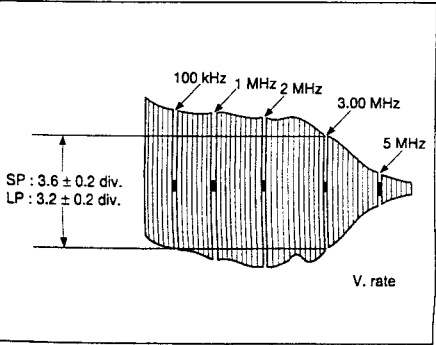

Fig. 3-3-7 S-VHS VIDEO EQ
- (1) Connect an oscilloscope to Y OUT TERMINAL and TP111 (negative slope).
- (2) Record a video sweep signal in S-VHS SP mode, then play it back.
- (3) Set EVR mode by pressing "K" button of the presetting unit more than 2 seconds.
- (4) Set "A : 3" by pressing 3 digit key of the remote controller.
- (5) When assuming the 100 KHz sweep signal marker on the bigger channel is four scales on the oscilloscope, adjust TV PROG "+" or "-" button on the front panel or the 10-key remote control so that the 3.00 MHz is set at 3.6 ± 0.2 scale (-2 ± 0.5 dB) while observing Y OUT of the S output (See Fig. 3-3-7).
- (6) The EVR mode is canceled by pressing the "K" button after the adjustment, and the adjusted value is stored.
- (7) Also, it records and plays back the sweep signal in the LP mode.
- (8) Carry out the step (3) and (4).
- (9) When assuming the 100 kHz sweep signal marker on the bigger channel is four scales on the oscilloscope, adjust TV PROG "+" or "-" button on the front panel or the 10-key remote control so that the 3.00 MHz is set at 3.2 ± 0.2 scale (-3 ± 0.5 dB) while observing Y OUT of the S output (See Fig. 3-3-7).